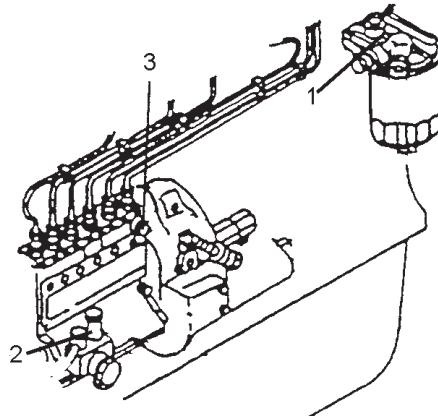

Figure 8 Fuel Feed Pump
- Loosen the air vent plug (#1 on Figure 8) on the fuel filter by about 1-1/2 turns. (Be sure to cover the vent with a cloth to prevent fuel from splashing.)
- Turn the priming pump cap on the fuel feed pump counterclockwise to unlatch it. Move the priming pump plunger (#2 on Figure 8) up and down. To close the pump turn the cap clockwise while depressing it.
- Turn the air vent plug (#3 on Figure 8) about 1-1/2 turns to loosen it. (Cover the vent with a cloth to prevent fuel from splashing.)